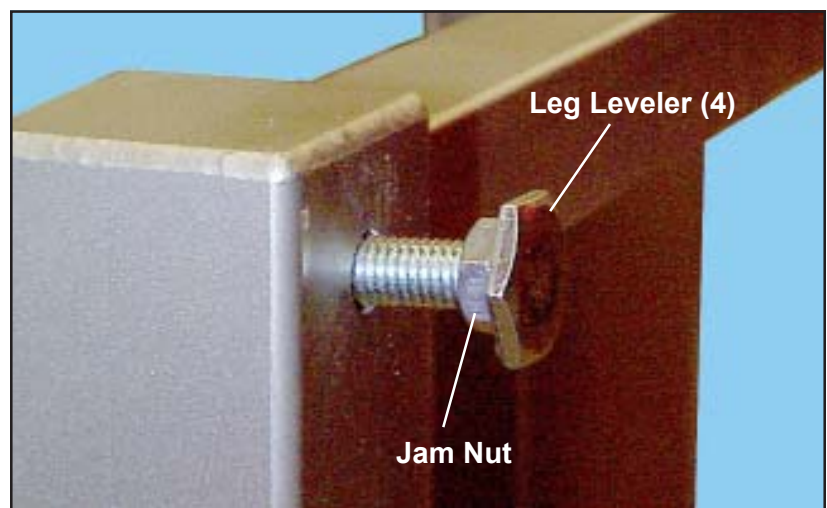

Figure 4. Leg Leveler with Jam Nut Mounted in Skid Bolt Hole
2. Screw the four leg levelers about half-way into the skid bolt holes (Figure 4).